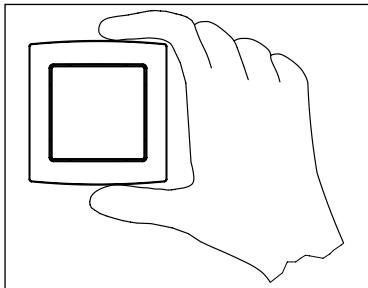

Fig. 4
a) Open the device (see Fig. 4).